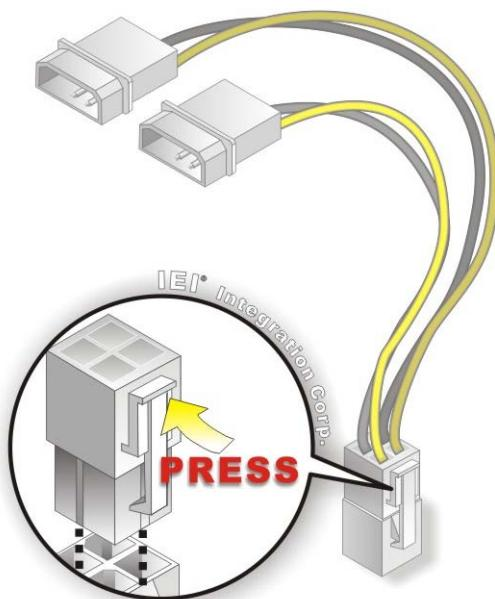

Figure 4-18: Power Cable to Motherboard Connection
**Step 2: Connect the Power Cable to the Motherboard.** Connect the 4-pin (2x2) Molex type power cable connector to the power connector on the motherboard. See Figure 4-18.